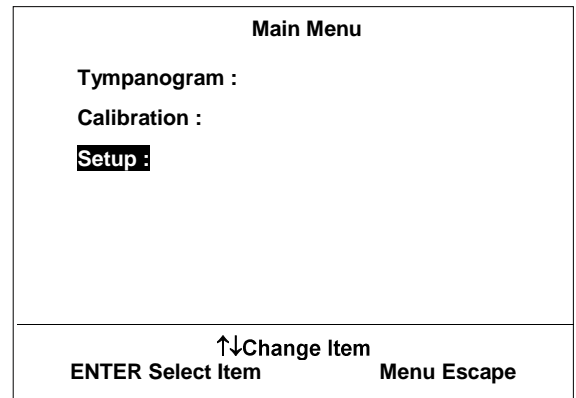

Figure 26
You can change the menu options with the cursor keys: Up ⑫, Left ⑨, Down ⑩ and Right ⑪. The menu option actually selected is marked inverse on the LCD display ⑤⑤ (SETUP in the example Figure 26). You select the chosen menu option by pressing Enter ⑬.